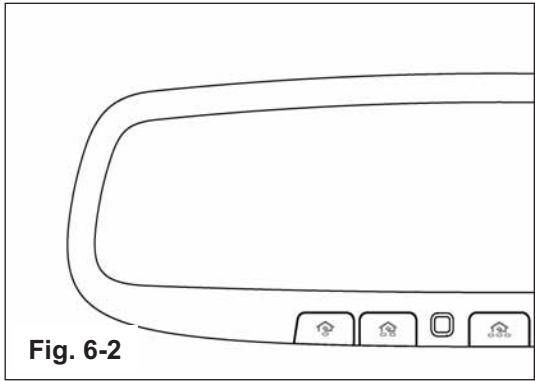

Fig. 6-2
5. Push each HomeLink® button, one at a time, and verify that the LED indicator to the left of the center switch illuminates with a red LED. (Fig. 6-2)